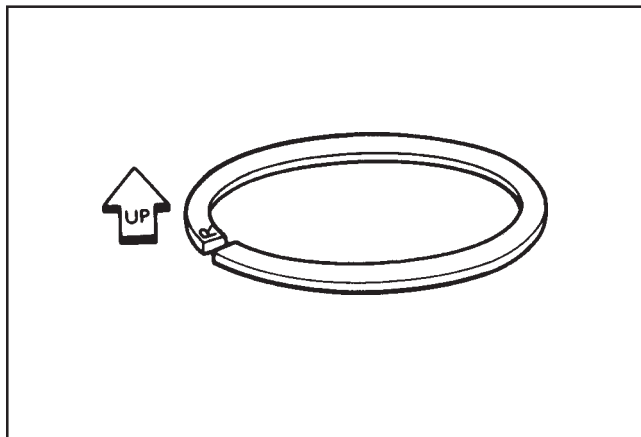

Figure 10-17. Middle Compression Ring.
2. Middle Compression Ring: Locate and identify the compression ring with the **R** marking. Using a piston ring expander, install this ring in the middle groove with the **R** up towards the top of the piston. See Figure 10-17.